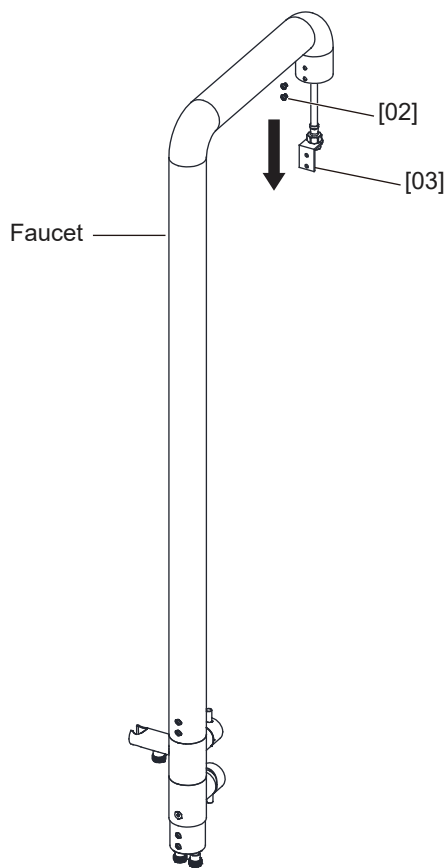

Fig 1.1
- 1-3** Remove the **Screws [02]** from the **Faucet** and slightly pull the **Connector [03]** out of the faucet, as shown in Fig. 1.1.